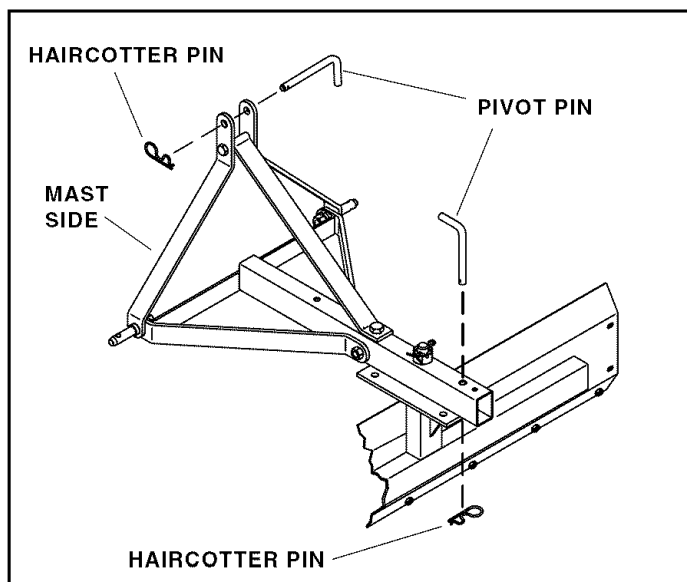

FIGURE 8
- Lock the blade assembly to the mast assembly by installing a pivot pin at the rear of the mast assembly. Secure the pin using a haircotter pin through the hole in the end of the pivot pin. See figure 8.
- Install a pivot pin through the hole at the upper end of the mast sides to provide a connection point for the tow vehicle's winch system. Secure the pin with a haircotter pin through the hole in the end of the pivot pin. See figure 8.